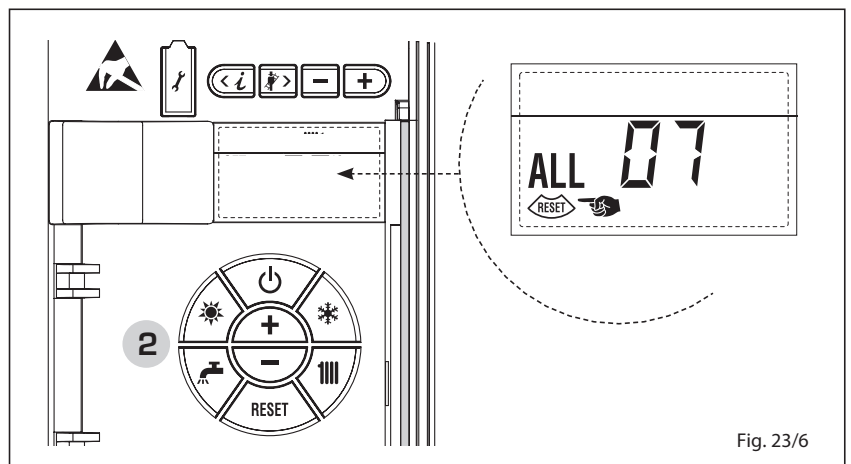

Fig. 23/6
– PARASITE FLAME ANOMALY ALARM 08 (fig. 23/7)